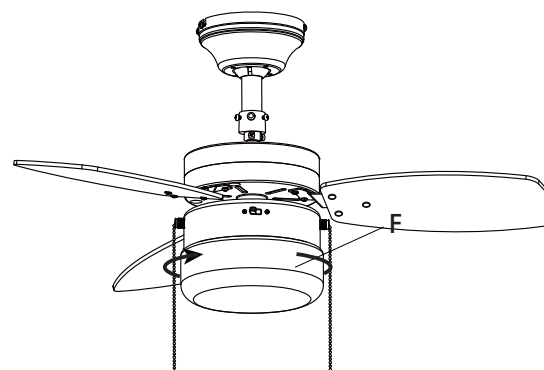

Figure 13
- Install the lamp shade (F) into the lamp-fitter by a gentle clockwise twist-and-lock (Figure 13).